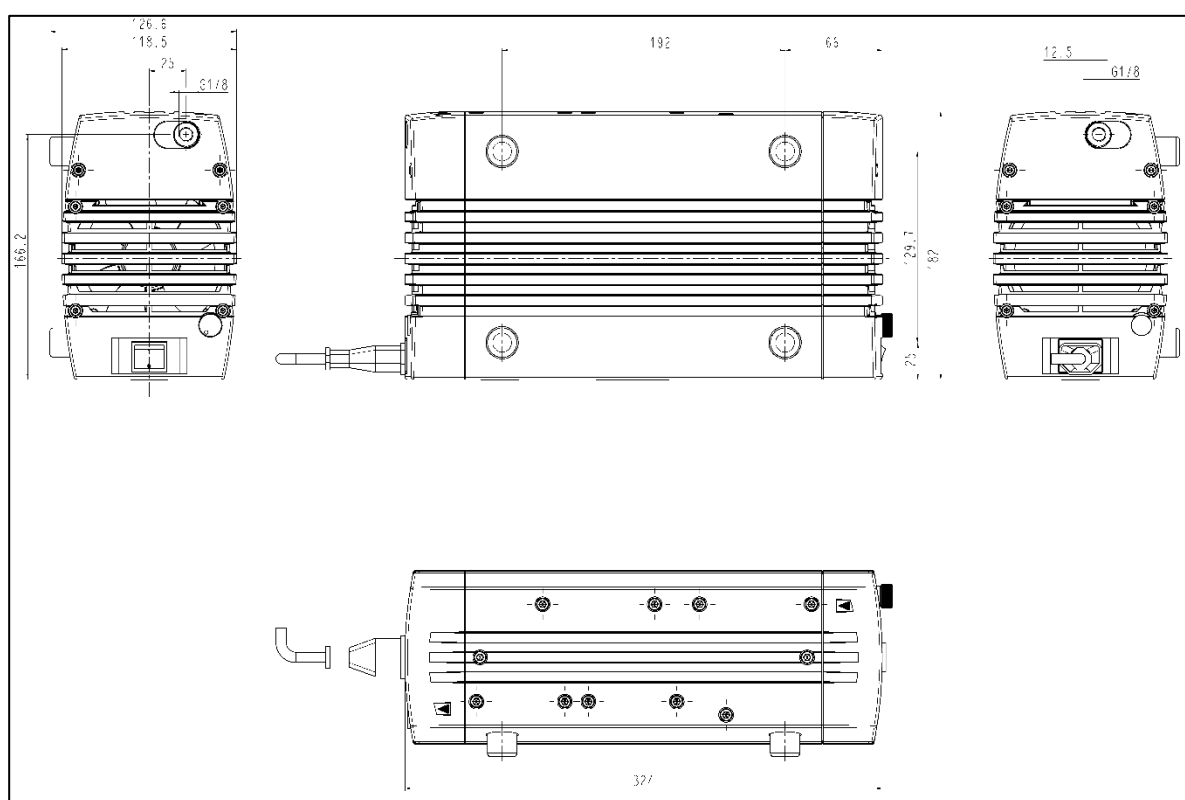
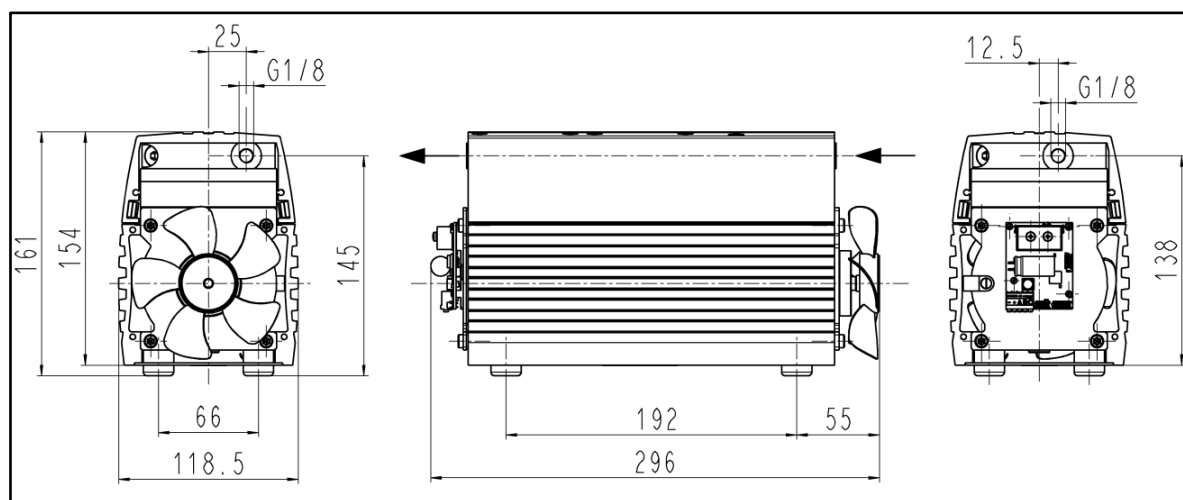

Fig. 6: Mounting dimensions pump series N 920 APE-W (All dimensional tolerances conform to DIN ISO 2768-1, Tolerance Class V)
Fig. 7: Mounting dimensions pump series N 920 APDC-B (All dimensional tolerances conform to DIN ISO 2768-1, Tolerance Class V)
- ➔ See Fig. 6 (N 920 APE-W) and Fig. 7 (N 920 APDC-B) for mounting dimensions.